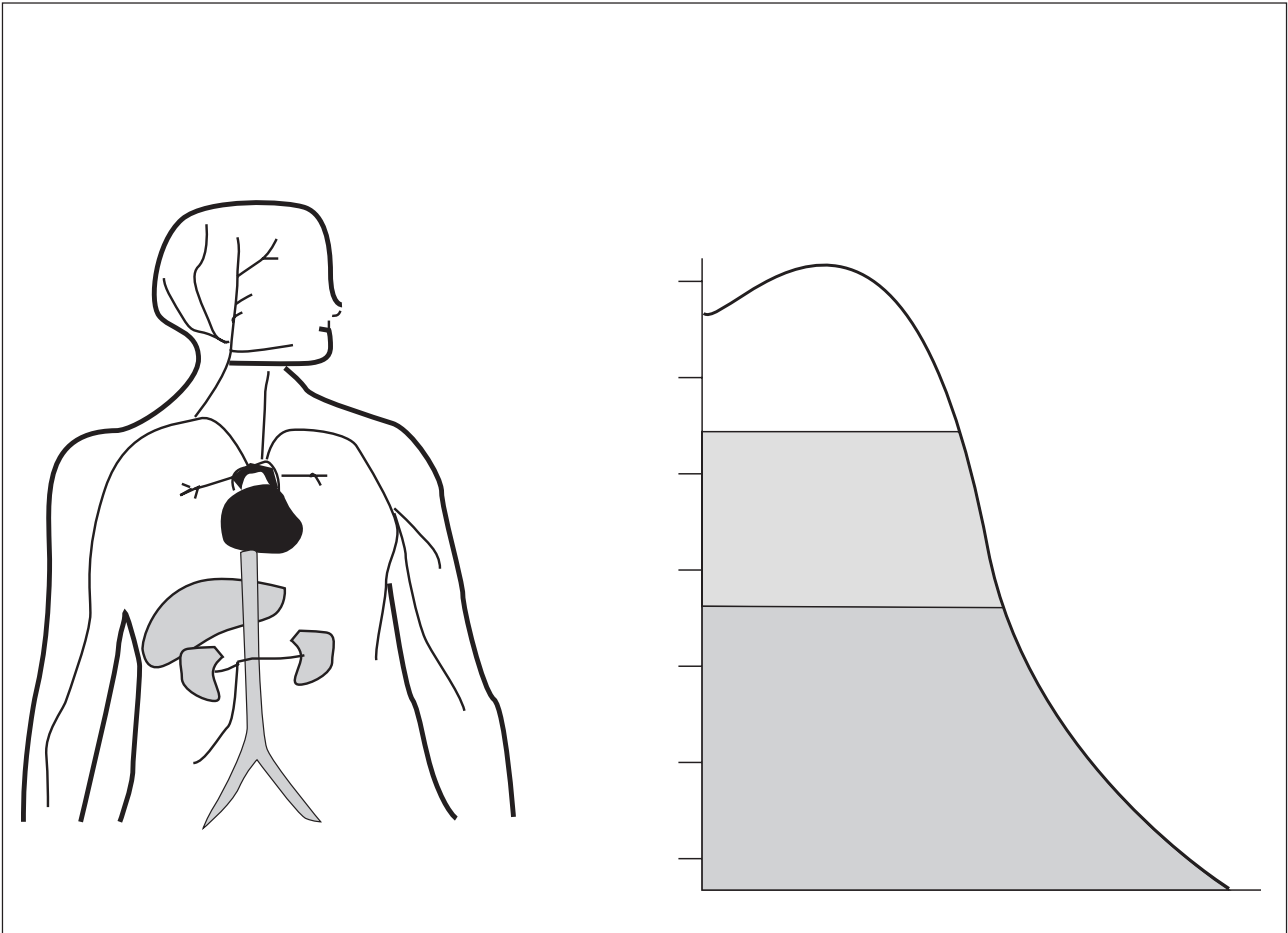

Figure 166.2 Figures for question 3 and 4
- Find Figure 166.2 in your textbook that shows where body heat is lost.
- Use your textbook and the AMSA brochure to mark in the following in Figure 166.2